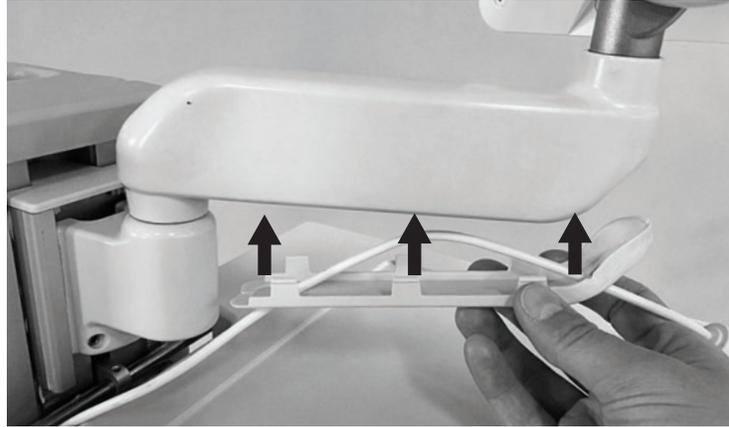

Figure 11: Reattach the Cable Management Cover
4. Thread the Power Cord through the Cable Management Cover, and reattach it to the bottom of the Horizontal Extension Arm. See Figure 11.